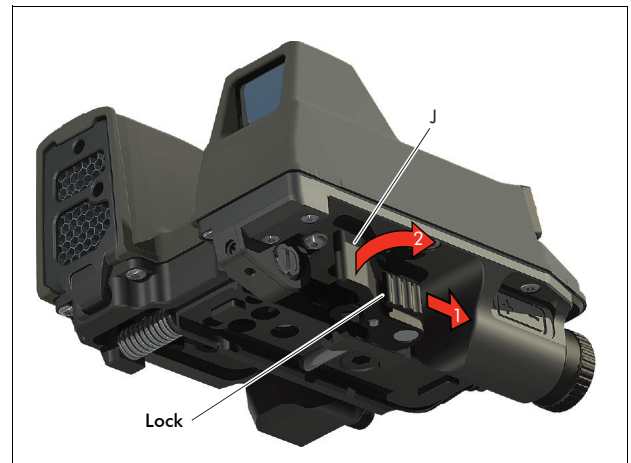

Fig. 3.a - Open the lever (J)
- Pull the lock backwards to unlock the lever (J) (see Fig. 3.a).
- Open the lever (J) (see Fig. 3.a).
- Position the FN® FCU Mk3 onto the top rail of the rifle (lug on the FN® FCU Mk3 between lugs N° 3 and 4 of the top rail) (see Fig. 3.b).
- Close the lever (J) to lock the FN® FCU Mk3 onto the rail, making sure that the clamp (H) is positioned correctly (see Fig. 3.b).
- Push the lock forwards to lock the lever (J) in position.